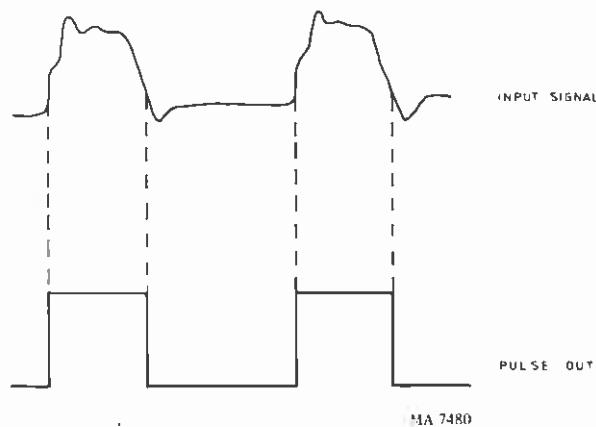

Fig. VI-6. Pulse shaping
- The PULSE OUT connector now provides a signal with the same repetition time and duty cycle as the input signal, but shaped (waveform aberration, transition time) according to the generator's specification (Fig. VI-6). Pulse delay and duration can be varied on the signal available at AUX. OUT.